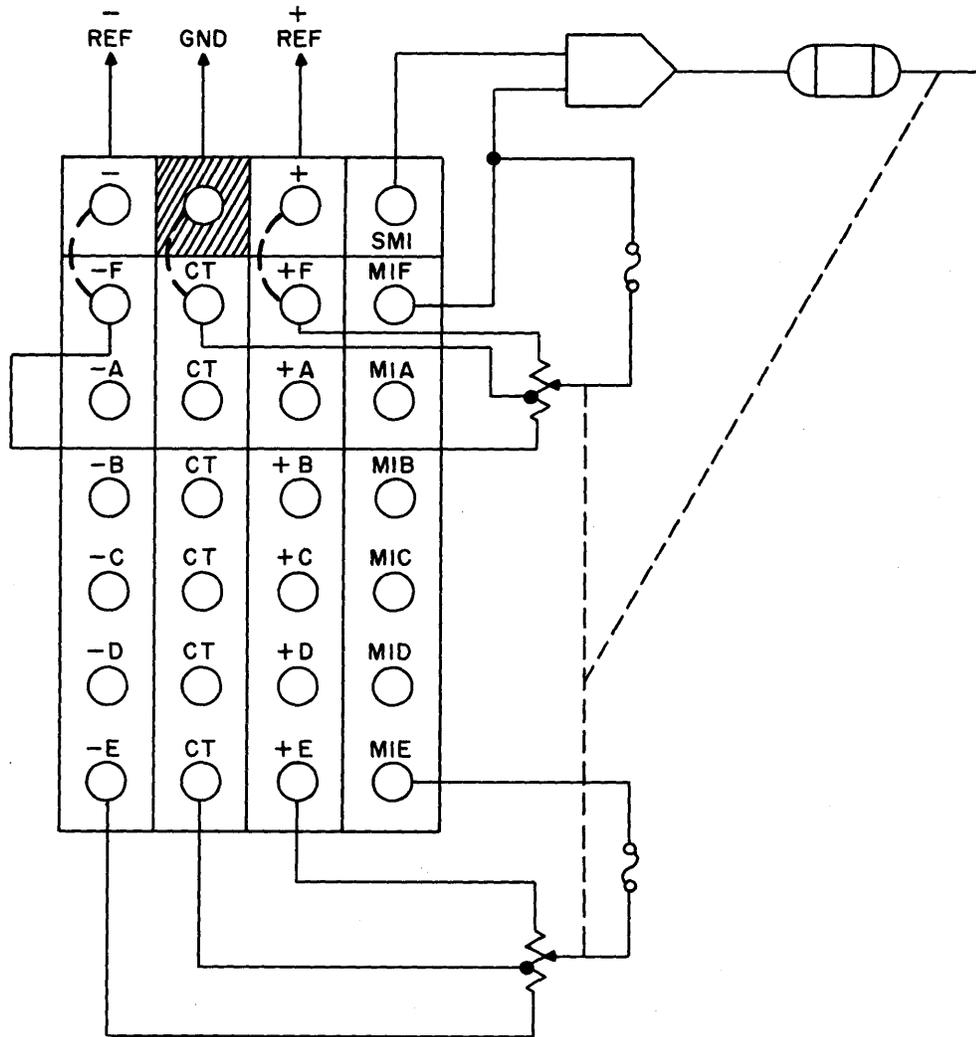

Figure 12. Servomultiplier Connections.
(3) *Servo Multiplier.* Figure 12 shows the patch panel terminations of the servo multipliers and the connections to the servo-amplifier. Dotted lines show bottle plugs used to make reference voltage connections to the follow-up potentiometer. Input is patched into terminal SM1.